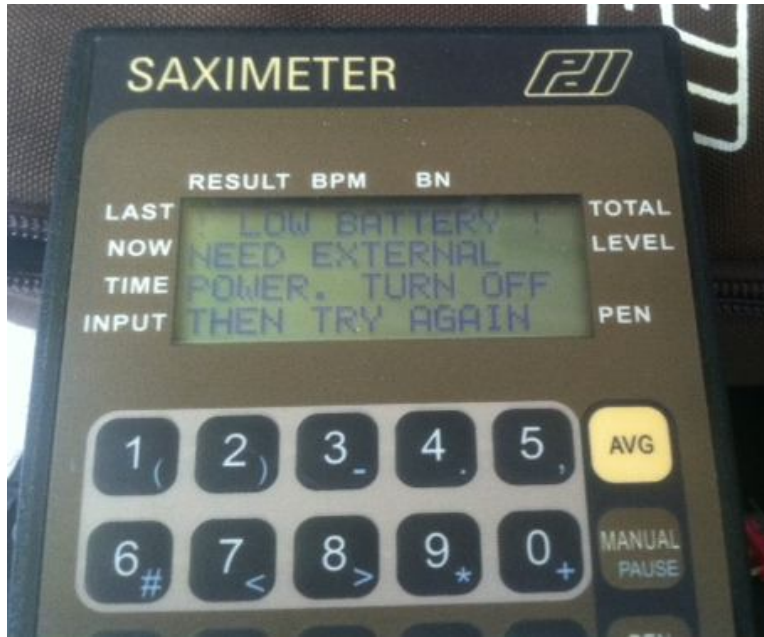

Figure 1.
2.1.1. The Saximeter uses rechargeable lithium-ion batteries that can last up to 12 hrs. To recharge, connect power cable to the port on the left side of the unit. A red light will illuminate on the power cord pack and will turn green when fully charged, which takes approximately 4 hours. It is fine to leave charger on overnight, but it is not recommended to leave charger plugged into an outlet continually. The battery will auto discharge over time. Therefore, it is recommended that the unit be taken out periodically and cycled monthly. Run the battery down until the unit displays a low battery warning (Figure 1), then recharge it. If the unit is left unused for multiple months, repeatedly discharge and recharge a few times to help revive the battery to optimum operation. The best practice is to always store and maintain the ESAX at a full charge. This will greatly help to promote the longest battery lifespan.
2.1.2. Low Battery Indication - A low battery indication will occur at approximately 3.3V. The ESAX will power down at approximately 3V. After first indication of a low battery, the ESAX should remain functional for approximately 1 hour before the automatic shutdown. When the battery is approximately 3.3V or less, a "Low Battery" message (Figure 1) will appear upon boot-up before entering the